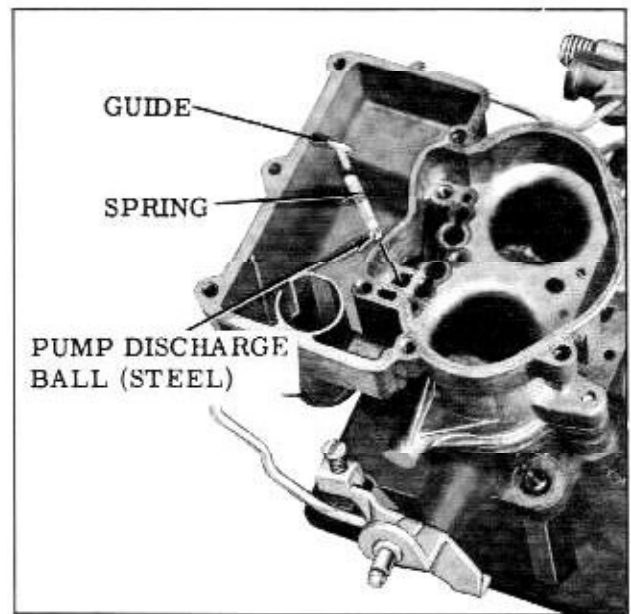

Fig. 8-107 Pump Discharge Guide
5. Using a pair of needle nose pliers, remove the pump discharge spring guide, then remove the spring and steel ball. (Fig. 8-107)
1. Install the pump discharge (steel) ball, spring and guide in the passage in the venturi cluster mounting surface. (Fig. 8-107)